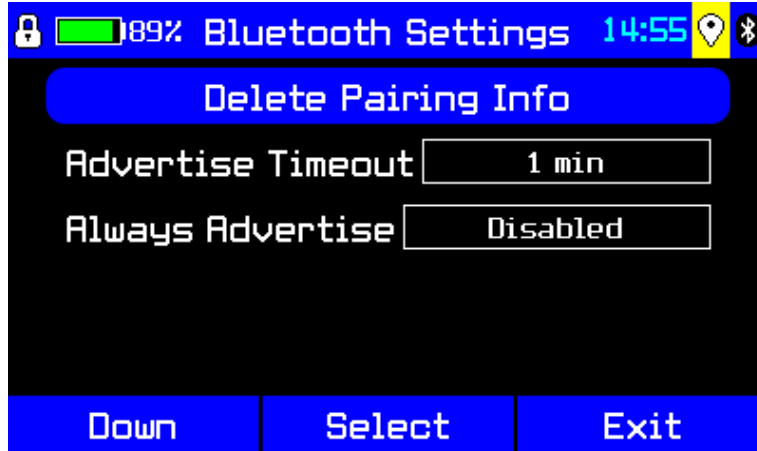

Figure 6-6: Bluetooth Settings screen
Delete Pairing Info	<p>The R425 stores the pairing info for any devices it has paired to. Select Delete Pairing Info (see Figure 6-6) to remove paired device information from the R425. When the deletion is complete, a confirmation message will appear (Figure 1-2).</p>  <p>Figure 6-7: Message confirming deletion of Bluetooth pairing information</p>
1. From the Bluetooth Settings menu (Figure 1-1), select **Advertise Timeout**. A screen similar to Figure 6-6 will appear: